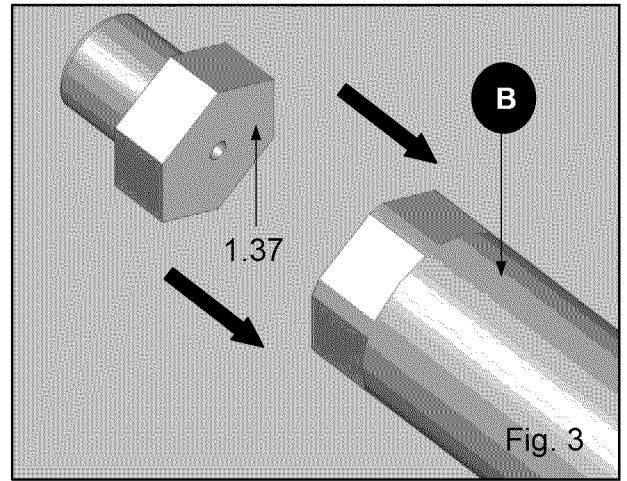

Fig. 3
**Make sure you are using the correct orifice, which is marked "1.37". (Fig. 3)**